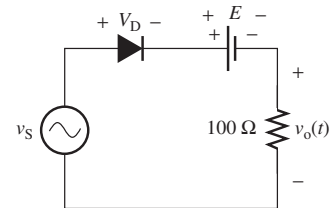

FIGURE P8.19 Voltage limiter.
8.19 (H) Find the transfer characteristic for the circuit shown in Figure P8.19 when $E = 4.3$ V.